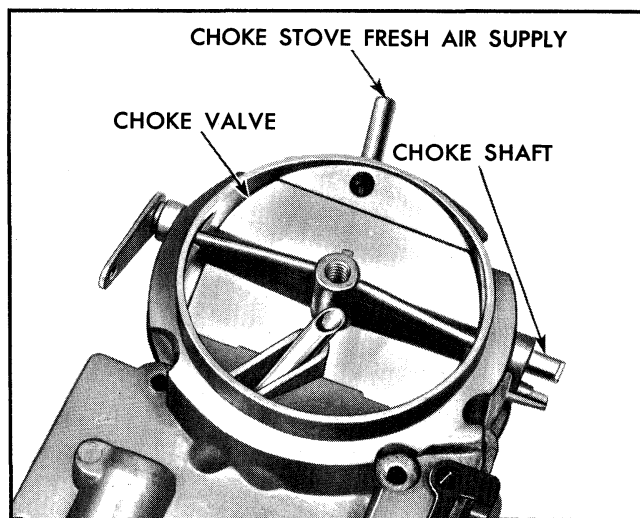

Fig. 6B-56 Choke Valve and Shaft Installed
1. Install choke shaft in air horn, then install choke valve on choke shaft using two attaching screws. Letters RP on choke valve should face towards top of air horn (Fig. 6B-56). Center choke valve before tightening screws, by installing the fast idle lever and choke trip lever. Maintain approximately .020"
2. Replace pump outer lever and shaft assembly and inner lever, tighten retaining screw on inner lever (Fig. 6B-57).